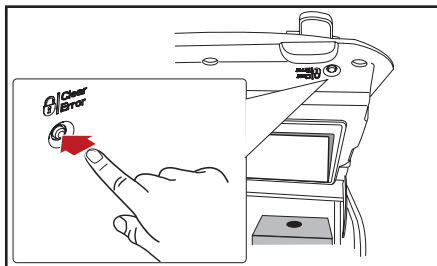

Fig. 5.2 - Lock the dispenser
1. Open the dispenser door and press the LOCK/Clear-Error button (fig 5.2) to lock the dispenser interface to prevent accidentally dispensing drinks or hot water when cleaning the external parts.